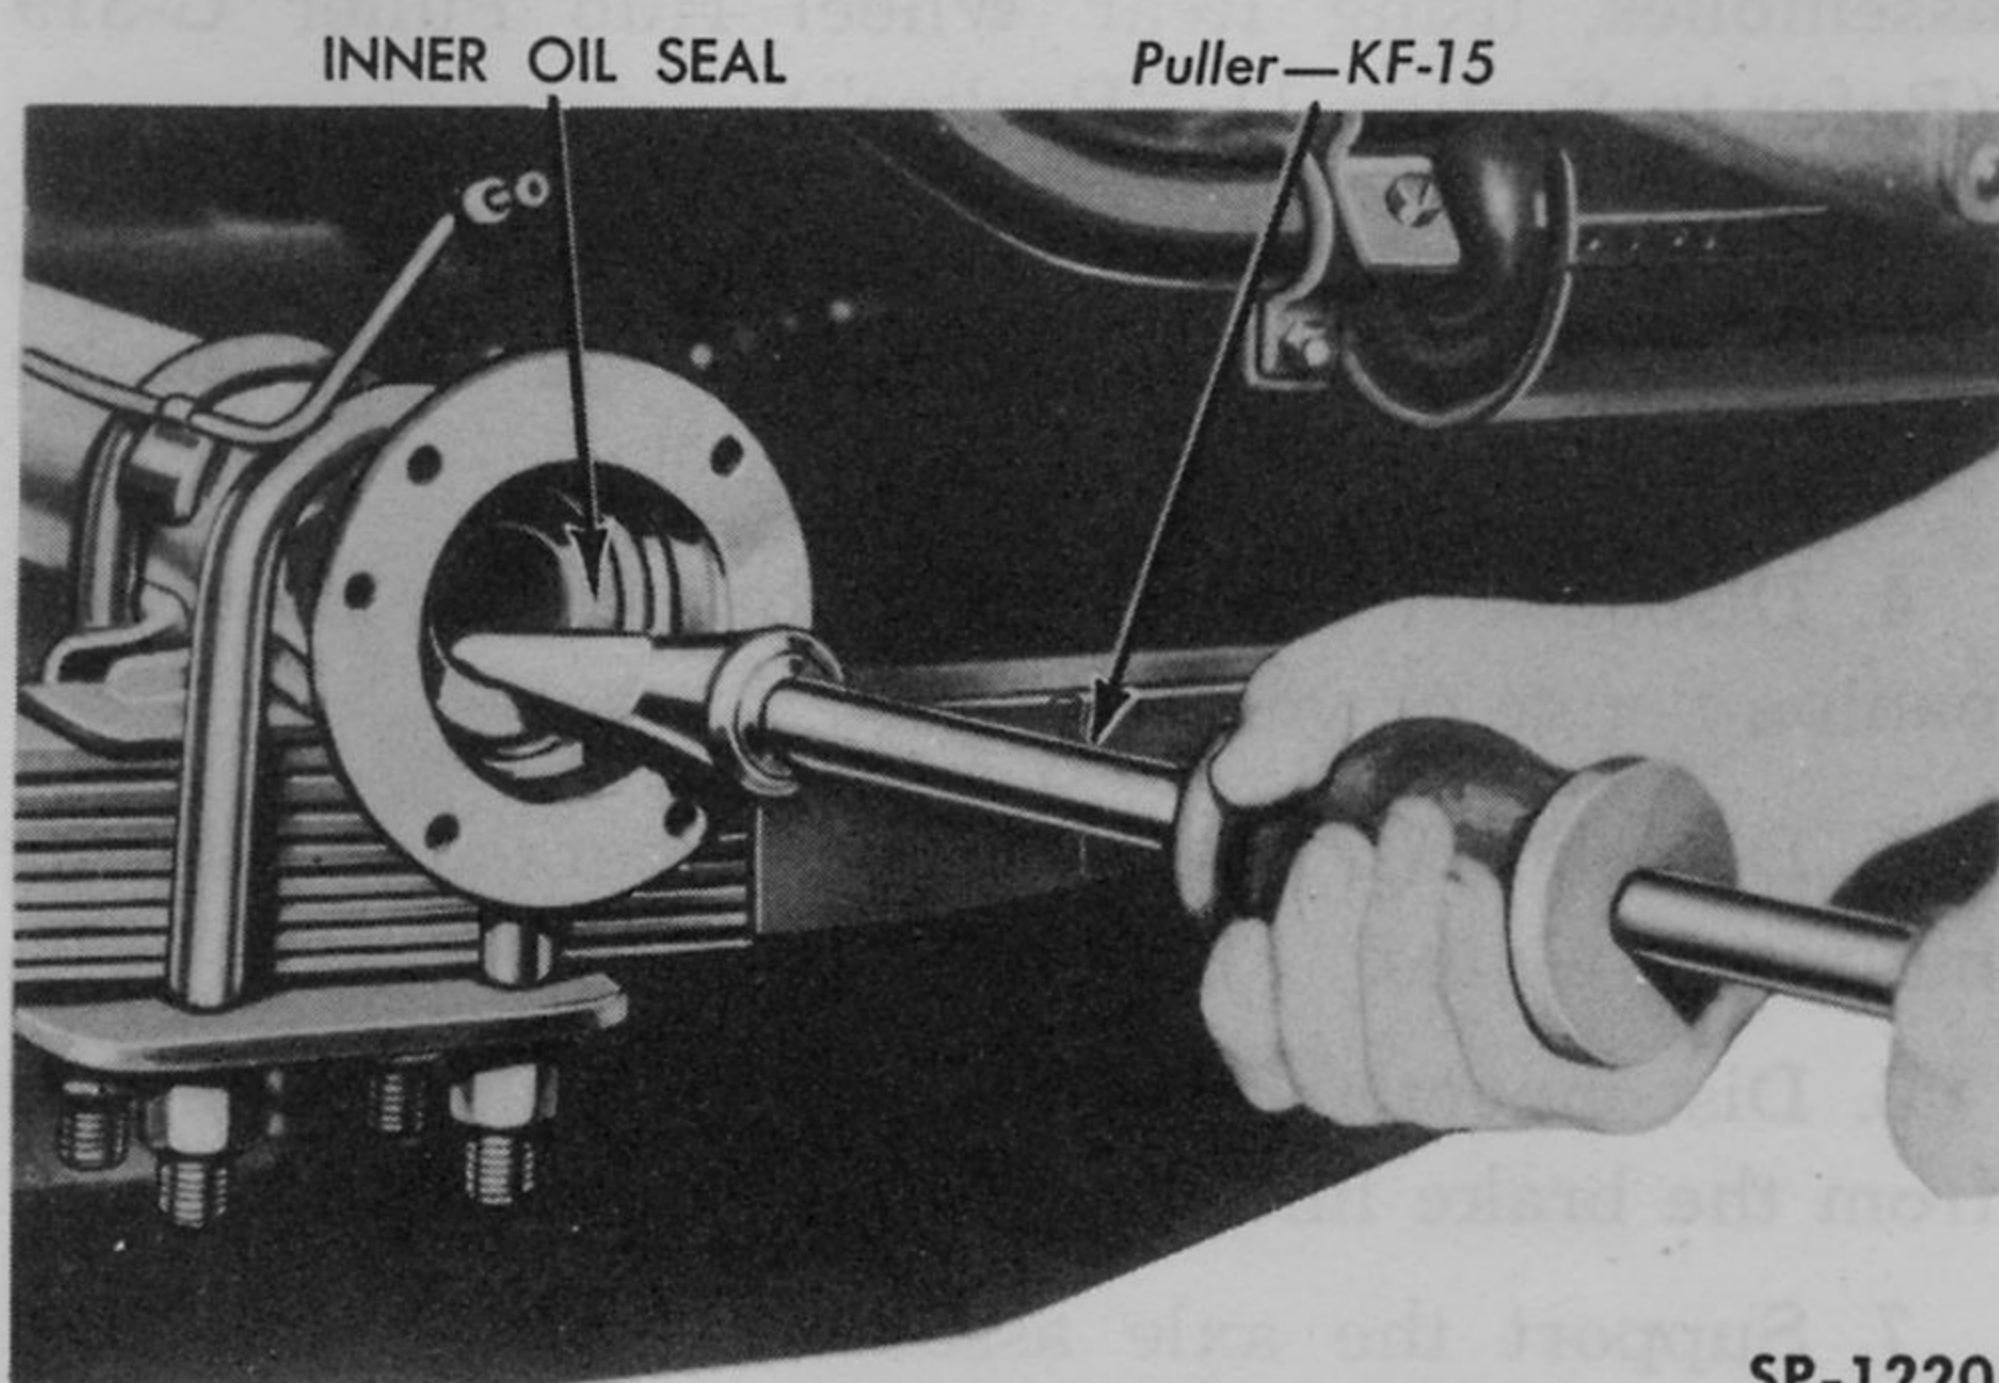

Fig. 256—Removing Axle Shaft Inner Oil Seal
9. Remove the inner oil seal, using Puller and Adapter KF-15 (Fig. 256).